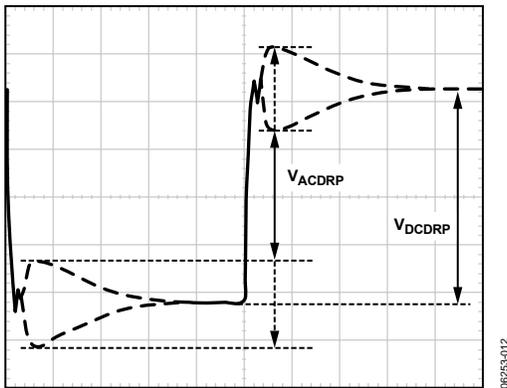

Figure 15. AC Load Line Waveform
14. Measure the output waveform (use dc offset on scope to see the waveform). Try to use a vertical scale of 100 mV/div or finer. This waveform should look similar to Figure 15.
15. Use the horizontal cursors to measure  $V_{ACDRP}$  and  $V_{DCDRP}$  as shown in Figure 15. Do not measure the undershoot or overshoot that happens immediately after this step.
- $$C_{CS(NEW)} = C_{CS(OLD)} \times \frac{V_{ACDRP}}{V_{DCDRP}} \quad (44)$$